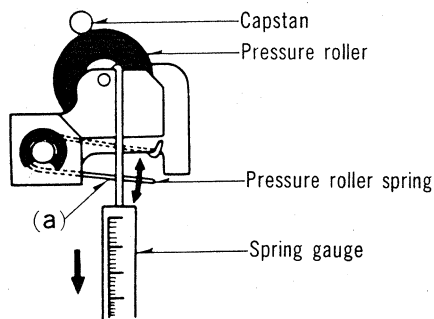

Fig. 5
2. Connect the spring gauge to pressure roller lever and pull it in the direction of the arrow as shown in fig. 5.